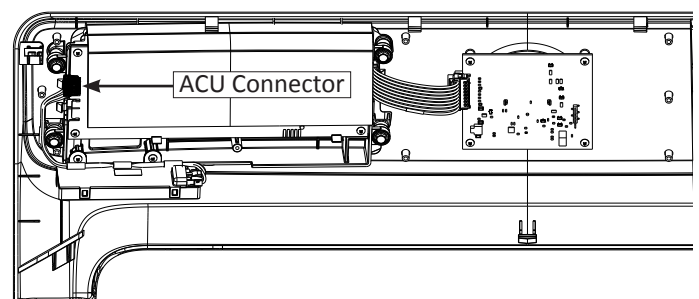

Figure 2 - Maytag Console HMI
3. Visually check that all ACU connectors are inserted all the way into the ACU. See Figure 2, page 3-7.